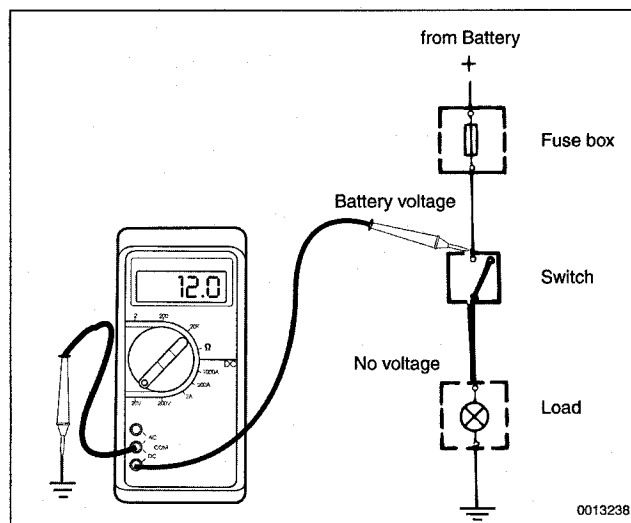

Fig. 1. Digital multimeter being used to test voltage.
2. Connect digital multimeter positive lead to point in circuit you wish to measure. See Fig. 1. If a reading is obtained, current is flowing through circuit.